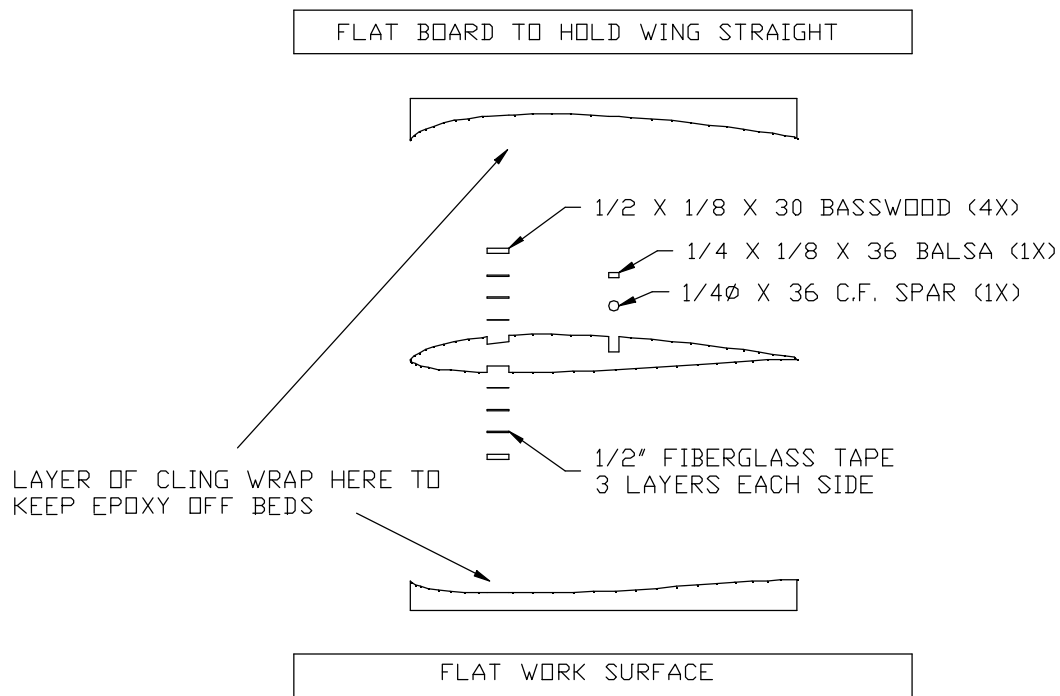

Figure 1
- ❑ Review figure 1. The first step will be to install the 1/2 inch wide fiberglass tape and the 1/2 x 1/8 basswood sticks.
- ❑ Install top and bottom wing spars. Using 20 minute epoxy, sandwich 3 layers of 1/2" wide glass tape between the 1/2" wide basswood spar and the foam wing. Upper and Lower wing spars should be installed simultaneously. See Figure 1 (Use a 3/32 diameter bead of epoxy between each layer. You will need to mix up a very large batch) Work the first layer of epoxy into the foam to get some penetration.
- ❑ Place the wing into the wing bed before the epoxy starts to cure. Use cling wrap or wax paper to keep the wings from sticking to the wing beds. Make sure everything lays flat and is lined up perfectly before laying on the weights. (see figure 1)